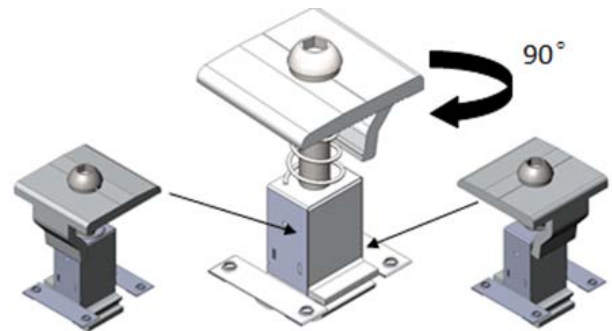

Figure 28
Step 1 Twisting the head of the Universal Clamp changes the functionality from End to Inter Clamp as shown in Figure 28.